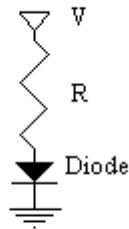

Figure 1 Diode temperature sensor circuit.
1. Use the circuit shown in Figure 1 to supply a sensibly constant current of approximately 1 mA through one of the rectifying diodes (1N4004 or 1N4005). Use  $R = 10\text{ K}\Omega$  and fix the supply voltage between 10 to 12 v. The exact voltage is not important, but be careful not to alter the voltage once it is set.
3. Based on the assumption that equation (4) represents the relationship between diode voltage and temperature, use a suitable graph to linearize your diode temperature sensor data and display the trend-line.